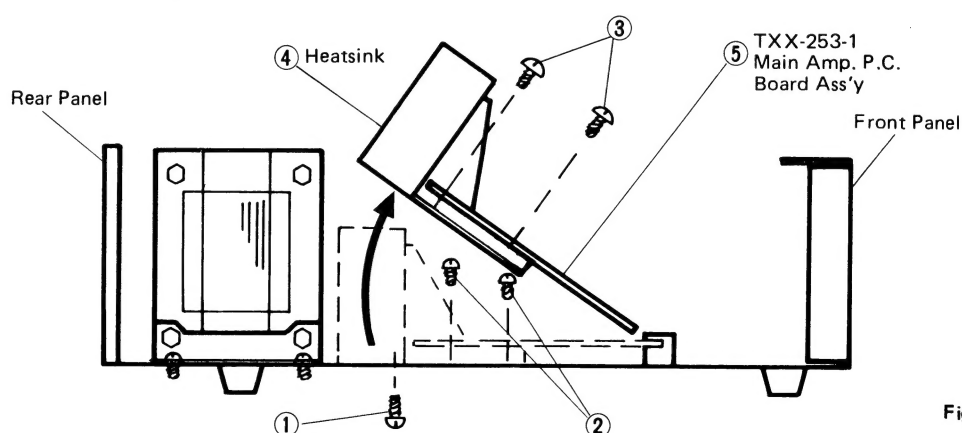

Fig. 2
① from heatsink ④.
Step 2: Remove 4 screws ②.
Step 3: Raise TXX-253-1 ⑤ from chassis as arrowed on Fig. 2 and then resolder the power transistor's leads.
Step 4: Remove 4 screws ③ and heatsink from TXX-253-1 and then replace the power transistors.